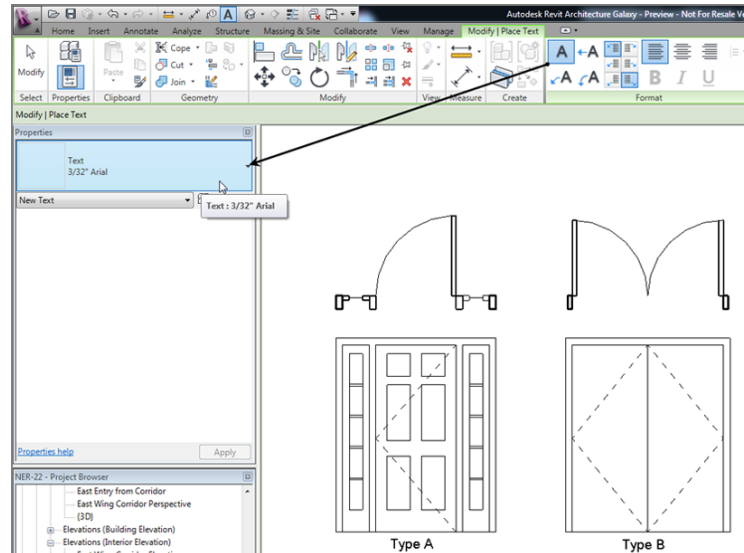

FIGURE 11.44: Placing text underneath the doors
2. Make sure the text style is Text: 3/32" Arial and that the leader is set to None, as shown in Figure 11.44.
3. Place some text centered under each door elevation, and label the doors Type A and Type B (see Figure 11.44).